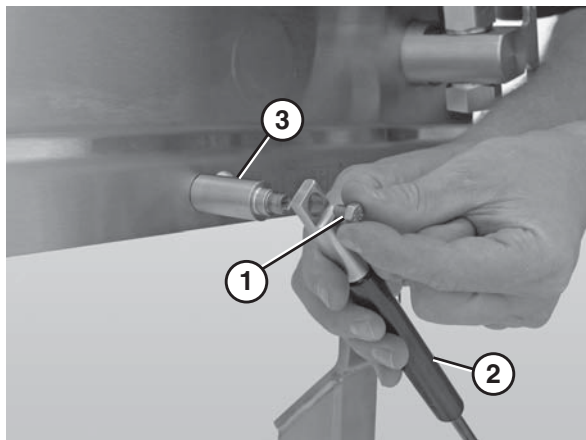

Figure 82
- Remove the hex bolt (Figure 82, item 1) that connects the gas spring (Figure 82, item 2) to the gas spring standoff post (Figure 82, item 3).
- Remove the inside hex bolt that connects the standoff post (Figure 82, item 3) to the frame.